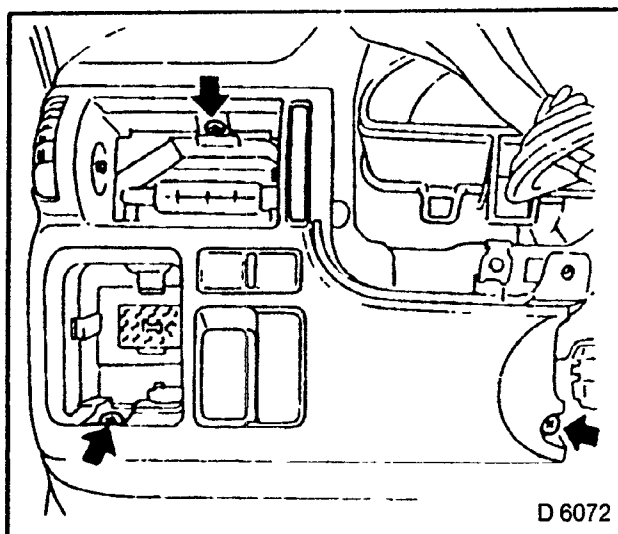

Fig 43
2. Insert retaining frame (Fig. 43 shows retaining frame for radio with central plug).